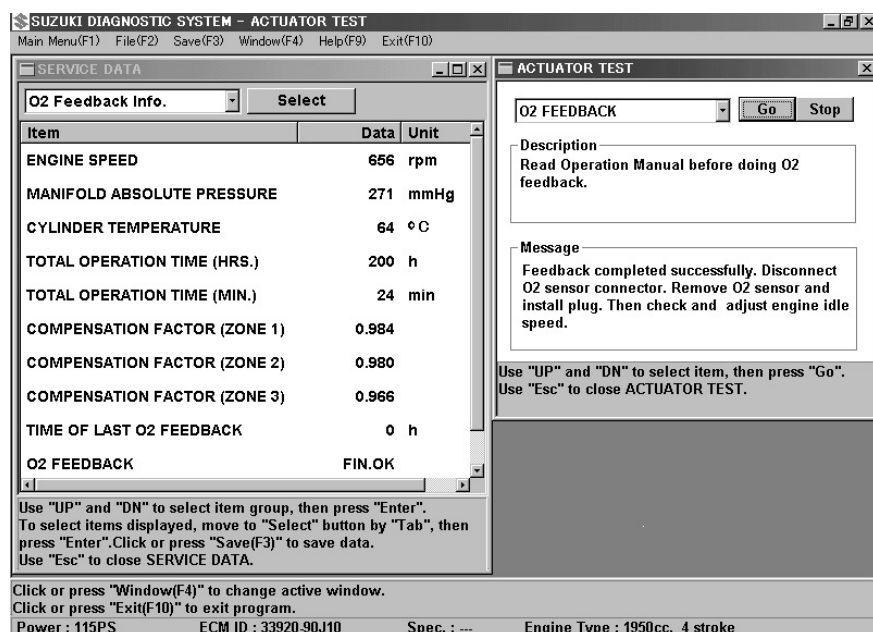

Fig.62
- When feedback finishes normally, the buzzer sounds for about 0.5 second (1 beep only). "FIN.OK" is also displayed. (Fig.62)